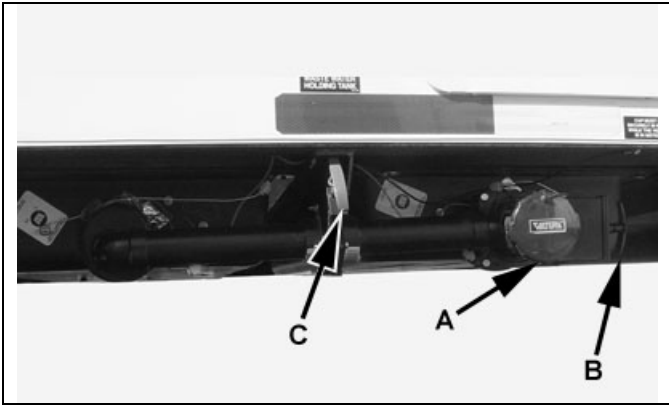

Figure 4-8 – Waste Drain Valves
- Remove cap (A) from connector located under the trailer and connect drain hose. Place other end of drain hose into dumping facility receptacle.
- Pull out on large drain line handle (B) first to drain sewage (black) tank. Only open one valve at a time. Push in to close after draining.
- Pull out on small drain line handle (C) to drain waste water (gray) tank. Draining this tank last will flush out the drain hose. Push in to close valve after draining.
- Remove drain hose, rinse and install cap (A). See figure 4-8.